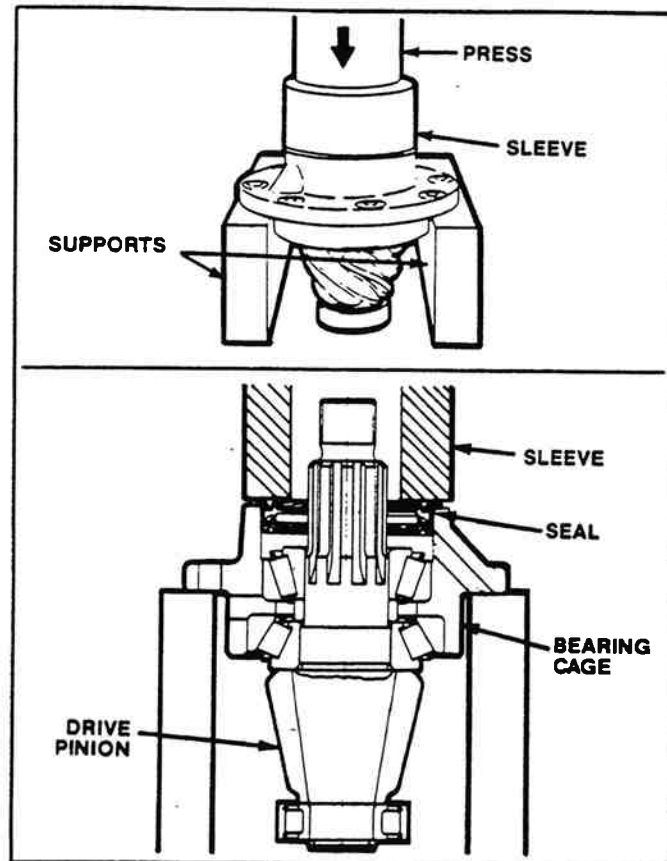

Figure 2-53. Pressing In Seal.
- Press the seal into bearing cage until flange of seal is flat against the top of bearing cage. Use a sleeve or seal driver of the correct size that fits against the metal flange of seal. The diameter of the sleeve or driver must be larger than the diameter of the flange (Figure 2-53).